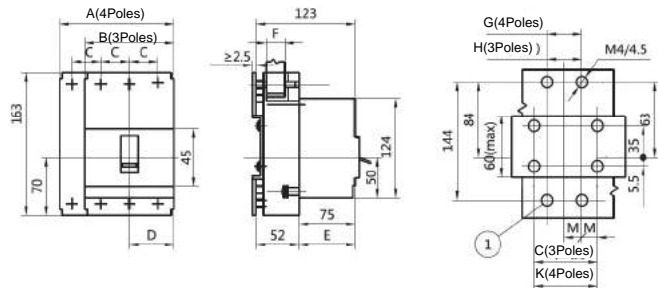

Fig6
6.1.3 Insert type board front connecting circuit breaker shape and install dimension see Fig6